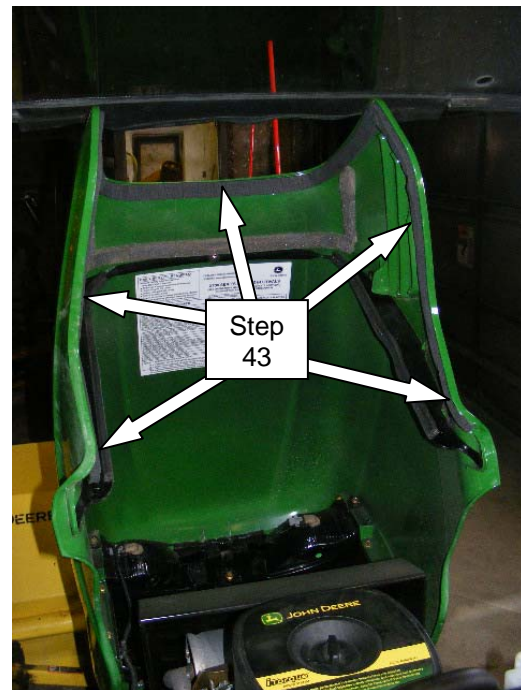

Figure 8
43. Apply 1 x 1 foam seal, 46" long to inside surface of hood panel, following the end profile of hood, as shown in **Figure 8**.